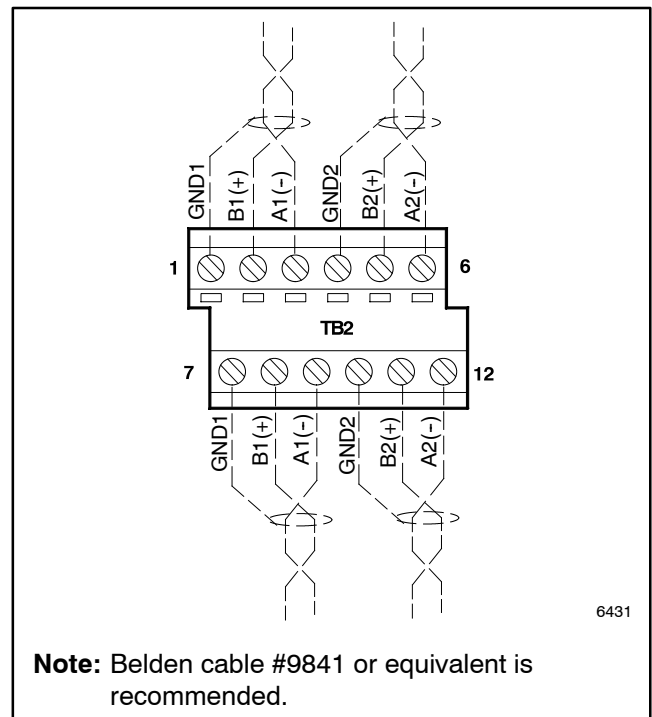

Figure 11-3 RS-485 Connections
- b. Use #12-24 AWG twisted-pair shielded cable; Belden cable #9841 or equivalent is recommended. Connect the Modbus® input and output to terminal strip TB2. See Figure 11-3. Connect A to negative (-), B to positive (+), and the shield to ground as shown in Figure 11-3.